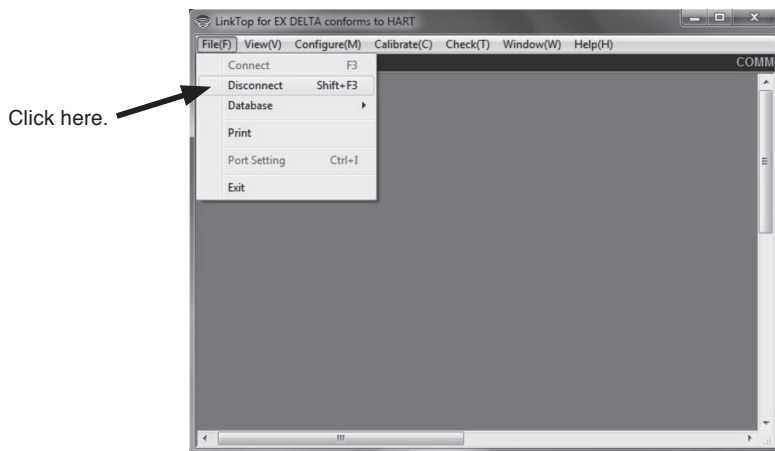

Fig.13
- ① Click on "File (F)" at top-level menu on the screen as shown in Fig. 13, select "Disconnect (U) Shift + F3".